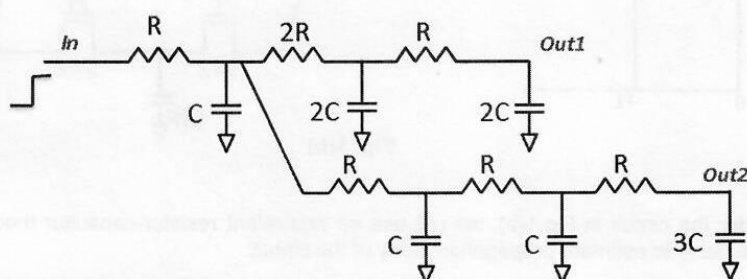

Fig. 1(a) RC Network
- (b) A RC network is shown in Fig. 1(a). Calculate the Elmore delay from **In** to **Out1** and from **In** to **Out2**. Which one is critical path? (10 pts)